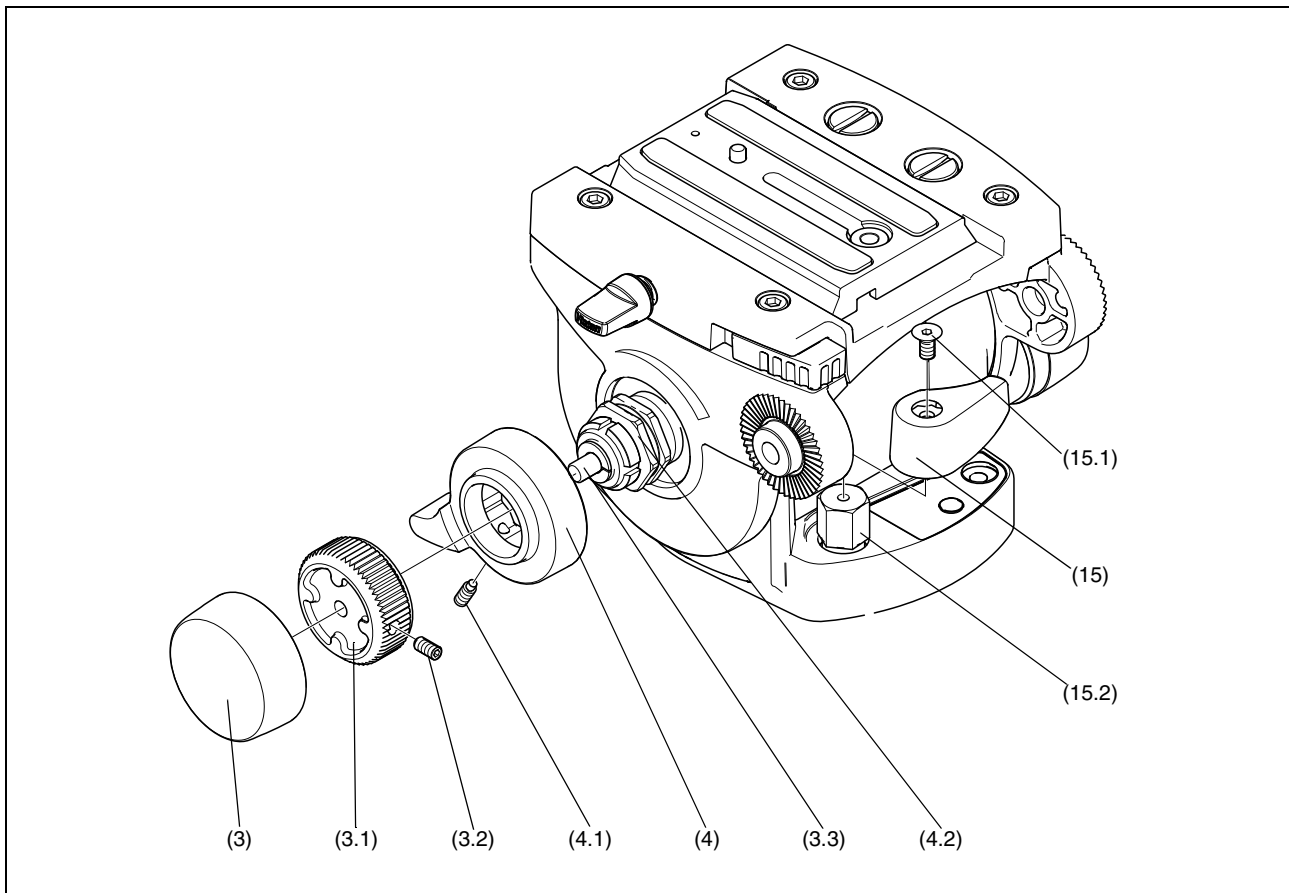

Fig 4.2 Pan and tilt brake knob adjustment
- 11 Because its movement is restricted, the tilt drag knob (4) may also require adjustment after prolonged use:
- 12.1 Slide off the rubber tilt drag knob (3) as shown in (Fig 4.2).